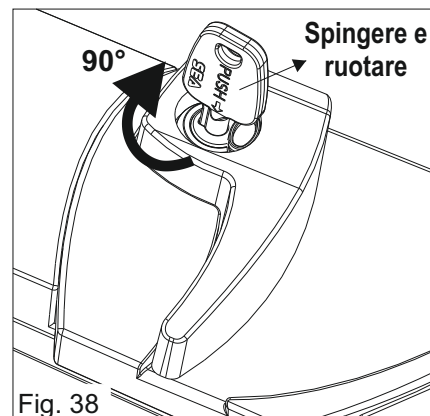

Fig. 38
- 2) Insert the release key, **push it** and turn it of about 90° clockwise (Fig. 38)